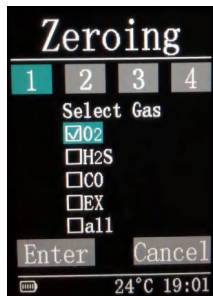

fig 21
i. User can calibrate a single sensor or several sensors at the same time by ticking off , as shown in Figure 21.